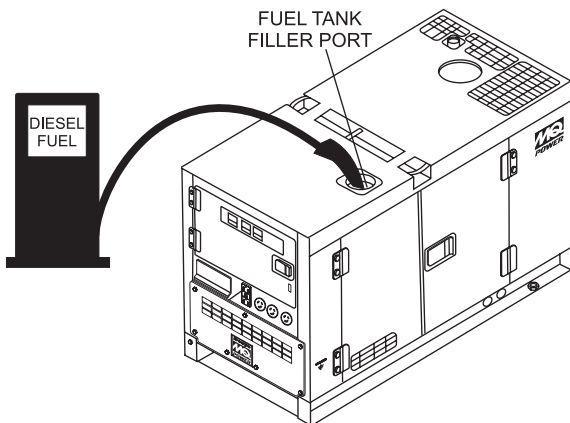

Figure 20. Fueling The Generator
2. Remove fuel cap (located on top of generator) and fill fuel tank as shown in Figure 20.